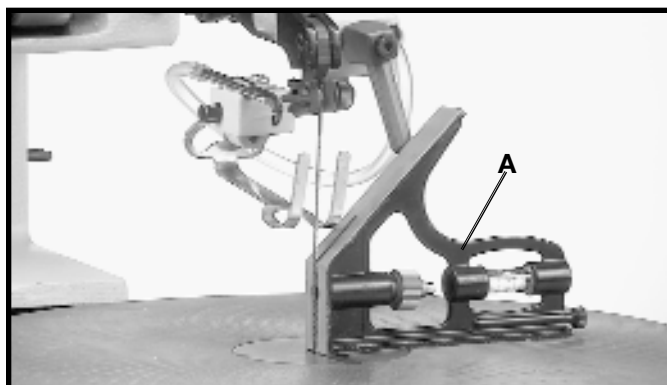

Fig. 32
2. Using a square (A) Fig. 32, check to see if the table is 90 degrees to the saw blade, as shown.